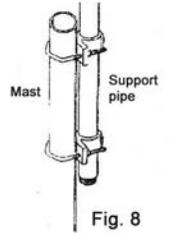

Fig. 8
- Attach assembled antenna on mast as shown in Fig. 8. While installing, be sure to take the balance of the entire antenna into account.